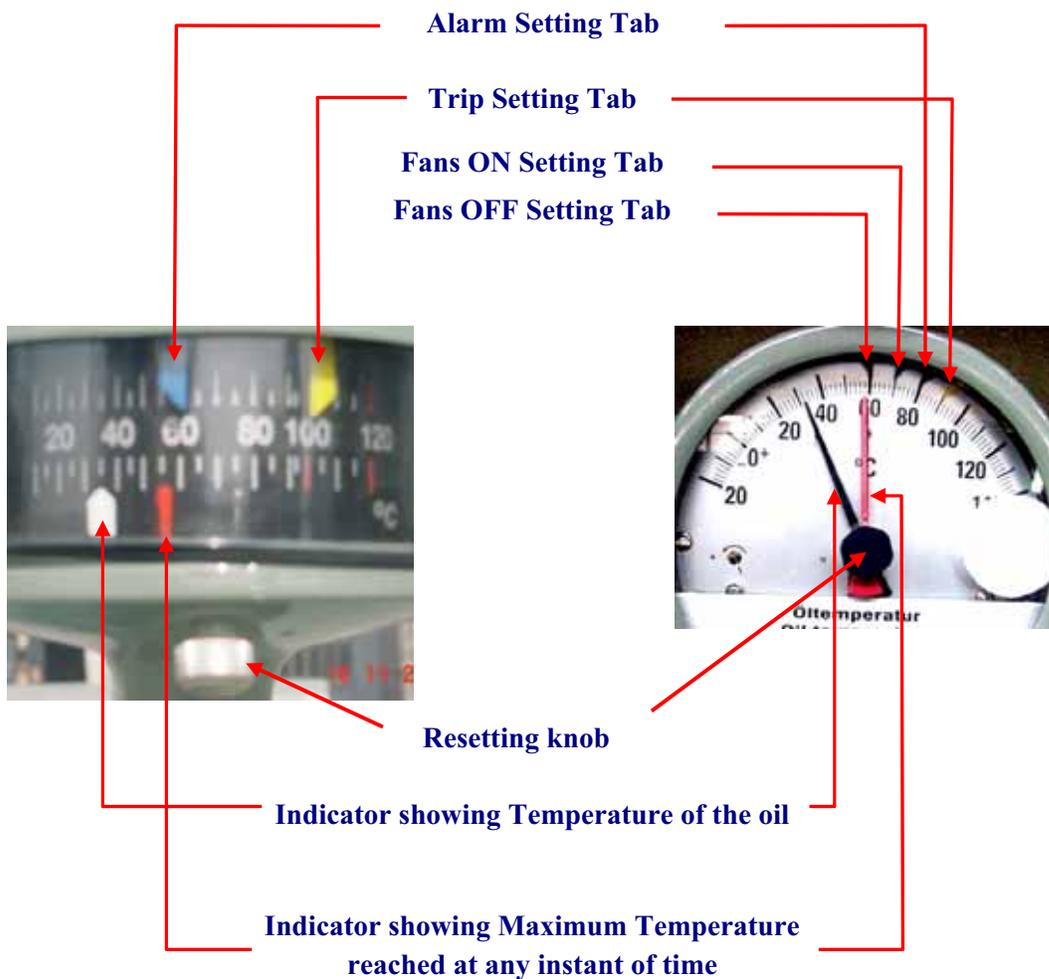

Figure 4 : Different types of Oil Temperature Indicators
Temperature indicators can be checked for the proper functionality of their contacts (see Figure 4). Mostly all of the contacts are Normally Open (NO) contacts.
- Sliding the alarm tab below the oil temperature indicator will change the state of Alarm contact from Normally open (NO) to Normally Close (NC)
- Sliding the trip tab below the oil temperature indicator will change the state of Trip contact from Normally open (NO) to Normally Close (NC)
- The maximum temperature knob can be rest at any time via a knob available on the indicator (see Figure 4)